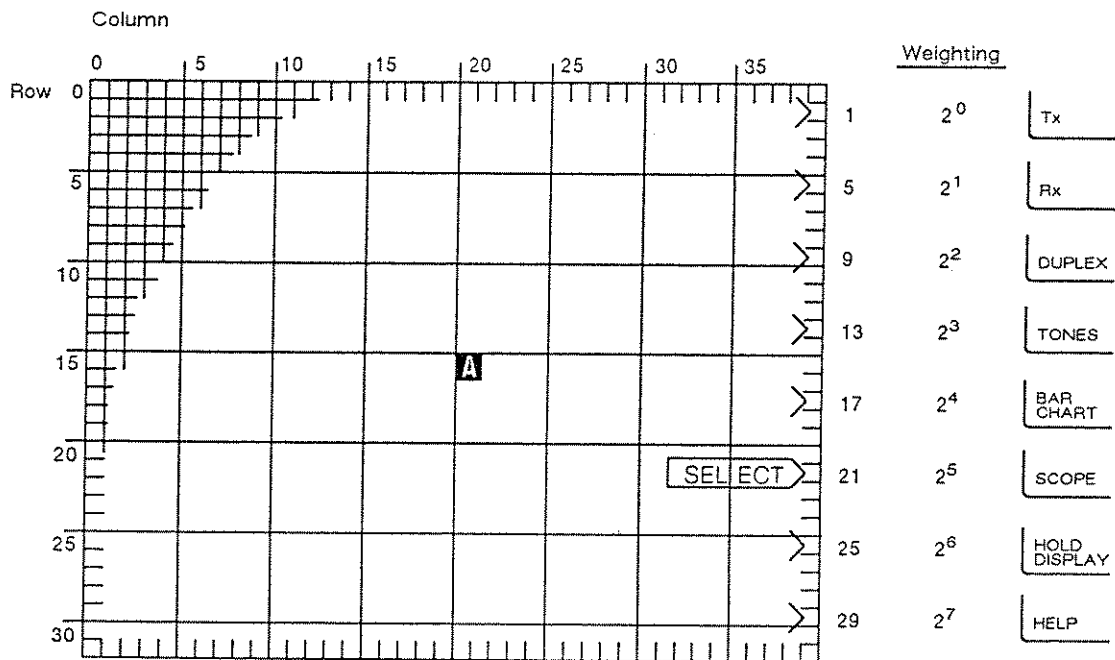

Fig. 4-7 Screen addressing example
To write a reverse video A at the centre of the screen at column 20, row 15, use "WR20,15,;"CHR\$(97) or "WR20,15,a". To write SELECT in the box alongside the SCOPE/BAR key, use BX32,6;WR32,21,SELECT<LF>. See Fig. 4-7.